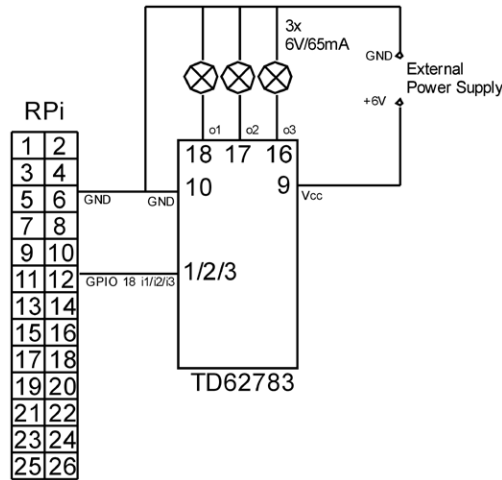

Figure 7.7. Some lights connected to the TD62783.
You can of course use different lights as long as they stay within the specifications of the TD62783. Since we're connecting three lights, we also use three inputs, which are all connected to GPIO 18 (pin 12 on the header).⁴⁹ The ground of the Raspberry Pi and adjustable power supply have to be connected together. The +3.3 V and +6 V obviously shouldn't be. The +3.3 V from the Raspberry Pi isn't actually used since the TD62783 takes its power from the V_{cc} pin (9), which is connected to the adjustable power supply. The circuit diagram is shown in Figure 7.7.